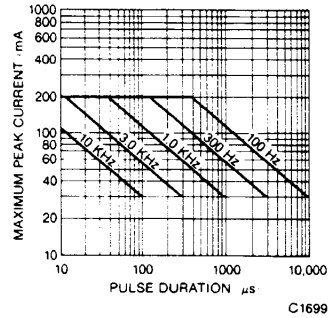

Fig. 3. Maximum Peak Current vs. Pulse Duration
2.	The curve in Figure 3 is normalized to the brightness at 25°C to indicate the relative efficiency over the operating temperature range.